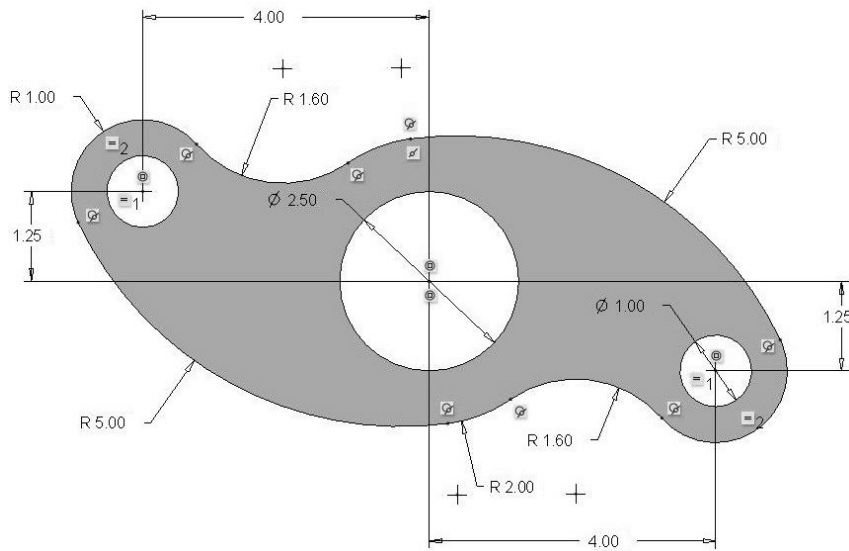

Figure 3-74 Problem 5—Rocker
- 3.5** Draw the front view of the "rocker" (Figure 3-74). **Design Intent**—The rocker is symmetric about the center hole. The right 1.00-inch diameter hole must be 4.00 inches right of the center hole and 1.25 inches below it. The left 1.00-inch diameter hole must be 4.00 inches left of the center hole and 1.25 inches above it. The arcs that form the perimeter are tangent to each other. **Hint:** draw circles tangent to each other, then trim them to form the arcs. Note that there are four different radius arcs 1.00, 1.60, 2.00, and 5.00. (>File>Options>Sketcher, change to 2 decimal places before sketching. *Pick OK.*)